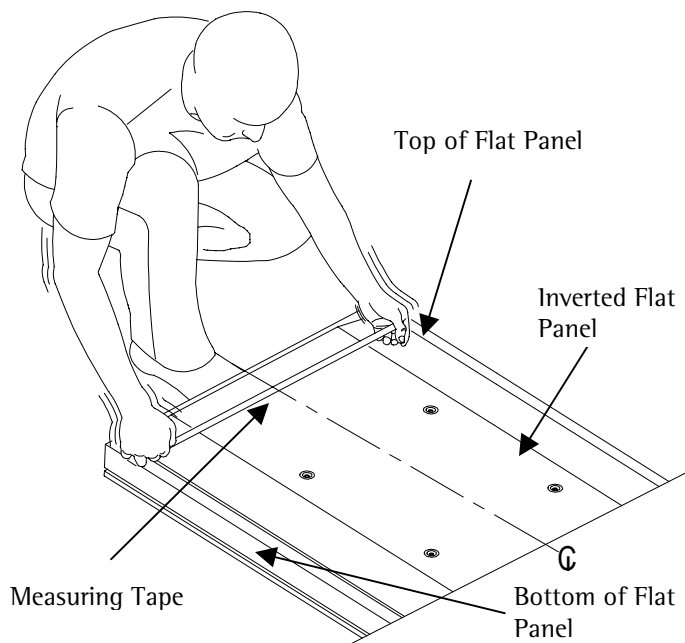

Figure 1. Flat Panel Mount Location
**WARNING:** INVERT THE FLAT PANEL PLACE IT ON A SOFT, FLAT SURFACE TO PREVENT DAMAGE TO THE FLAT PANEL. USE A BLANKET, FOAM, ETC. FAILURE TO DO SO WILL RESULT IN DAMAGING THE FLAT PANEL. DO NOT LAY THE FLAT PANEL ON THE FLOOR WITHOUT ANY PROTECTION TO THE GLASS. THE FLAT PANEL IS HEAVY AND FRAGILE. AT LEAST (2) QUALIFIED PERSONNEL ARE STRONGLY RECOMMENDED FOR INSTALLATION OF THIS PRODUCT. FAILURE TO DO SO COULD RESULT IN SERIOUS INJURY AND POSSIBLE DAMAGE TO THE FLAT PANEL.
1. Once the flat panel is inverted, use a measuring tape to find the center of your flat panel measuring from outside to outside of the chassis (Figure 1).